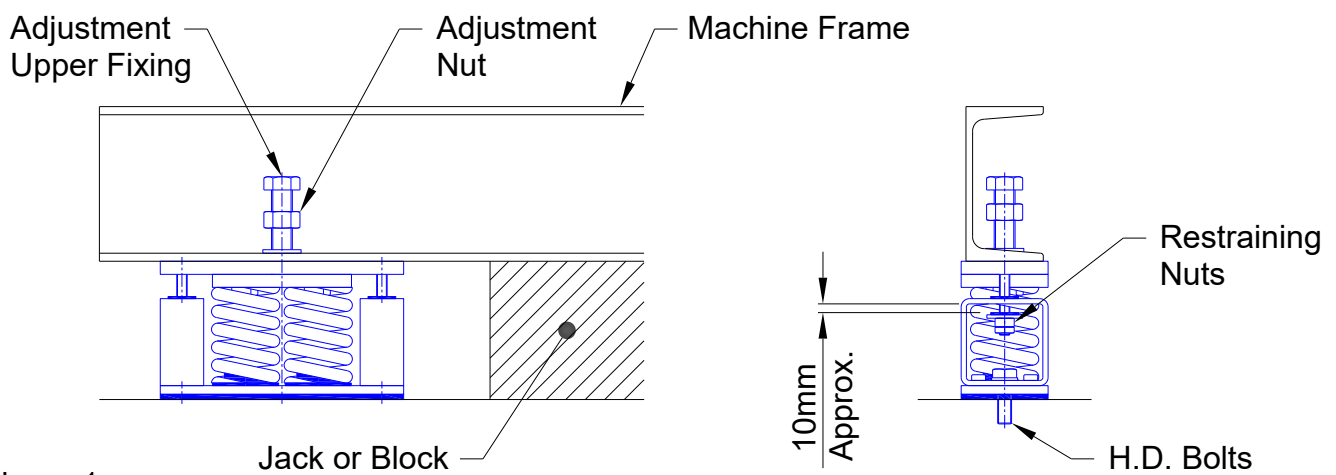

Figure 1
5. Isolator height should now be adjusted until contact with the underside of the machine frame is made. To do this it will be necessary to release the restraining nuts on either side of the isolator and set them at an approximate clearance height of 10mm (See Figure 1). The upper adjustment locknut should then be released with the upper adjustment screw turned clockwise, raising the isolator top plate until contact with the underside of the machine base.